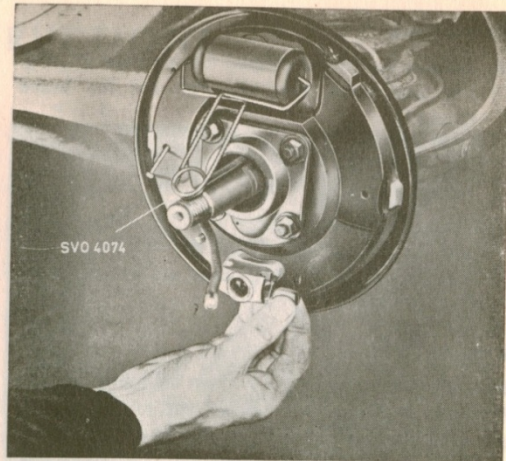

Fig. 7-16. Removing adjusting plunger
5. Screw in the adjusting screw slightly. Remove the adjusting plungers, see Fig. 7-16.